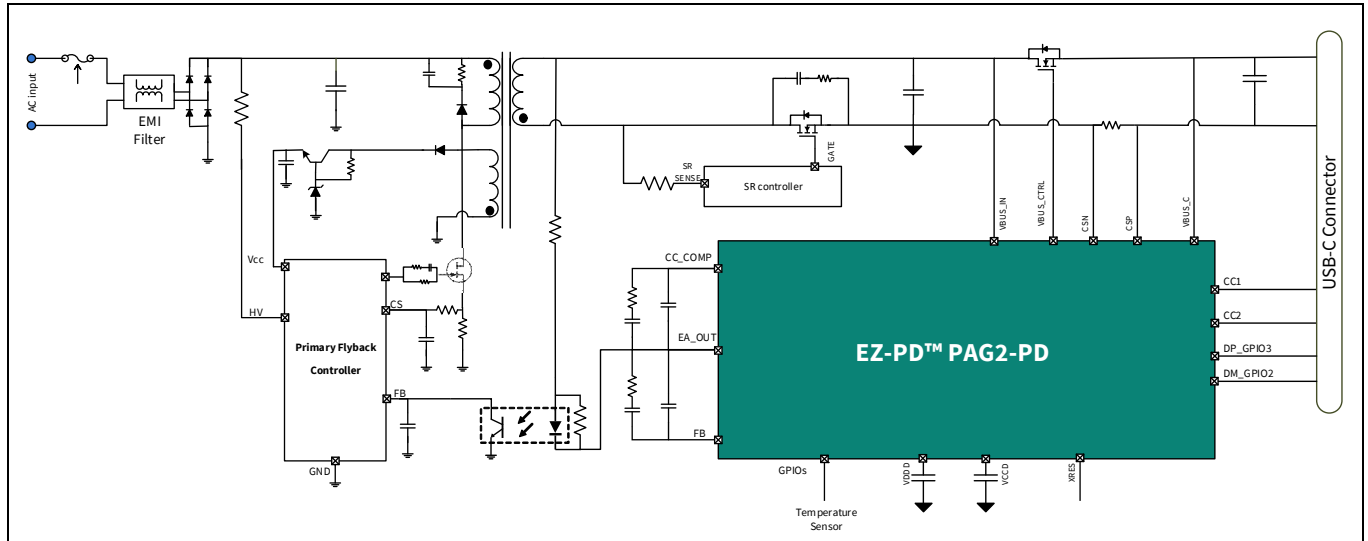

Figure 1 USB PD adapter with primary side flyback control
Figure 1 shows a power adapter application diagram implementing a primary side-controlled synchronous flyback system. In this system, EZ-PD™ PAG2-PD engages the internal error amplifier (EA) to take the feedback from the secondary side and pass it on to the primary controller over an isolation barrier like an optocoupler. The primary side controller can be any standard flyback controller. In this topology, EZ-PD™ PAG2-PD integrates two key features: charging protocol control, and fault protection.
EZ-PD™ PAG2-PD integrates two error amplifier blocks that handle secondary output sensing and feedback for both constant voltage and constant current modes of operation. The error amplifier output can be used to regulate the current drawn through the external optocoupler. The negative input of the error amplifier is the feedback (FB) pin and the positive input is an internal voltage reference. Based on the desired VBUS output, the voltage at the FB pin will be varied using internal current source/sink IDACs. An external compensation network is required between the FB pin and EA_OUT pin, as shown in the application diagram (see Figure 1). The constant current operation makes use of an internal low-side current sense amplifier (LSCSA), the output of which feeds into an independent error amplifier as shown in the functional block diagram. Constant current mode regulation requires an external compensation network between CC_COMP_GPIOx and EA_OUT as shown in Figure 1.
PAG2-PD integrates two error amplifier blocks that handle secondary output sensing and feedback for both constant voltage and constant current modes of operation. The error amplifier output can be used to regulate the current drawn through the external optocoupler. The negative input of the error amplifier is the feedback (FB) pin and the positive input is an internal voltage reference. Based on the desired VBUS output, the voltage at the FB pin will be varied using internal current source/sink IDACs. An external compensation network is required between the FB pin and EA_OUT pin, as shown in the application diagram (see Figure 1). The constant current operation makes use of an internal low-side current sense amplifier (LSCSA), the output of which feeds into an independent error amplifier as shown in the functional block diagram. Constant current mode regulation requires an external compensation network between CC_COMP_GPIOx and EA_OUT as shown in Figure 1. EZ-PD™ PAG2-PD error amplifier can ensure constant voltage regulation from 3.3 V to 28 V range and constant current regulation from 1 A to 5 A as required by the USB PD PPS EPR specification.